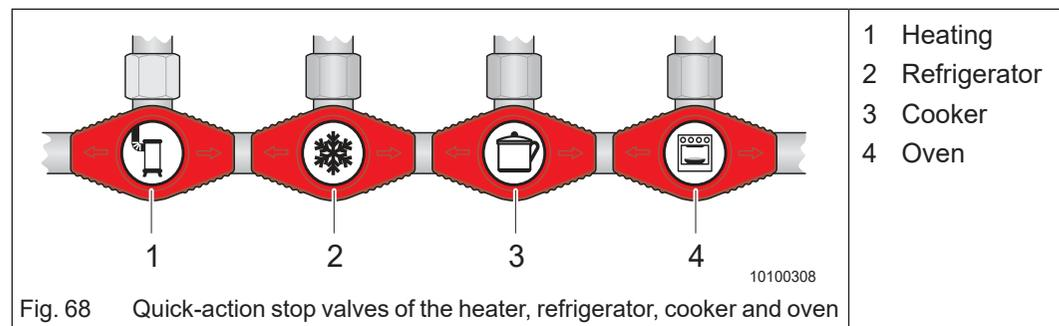

Fig. 68 Quick-action stop valves of the heater, refrigerator, cooker and oven
- Heater (Fig. 68/1)
- Refrigerator (Fig. 68/2)
- Cooker (Fig. 68/3)
- Oven (Fig. 68/4)